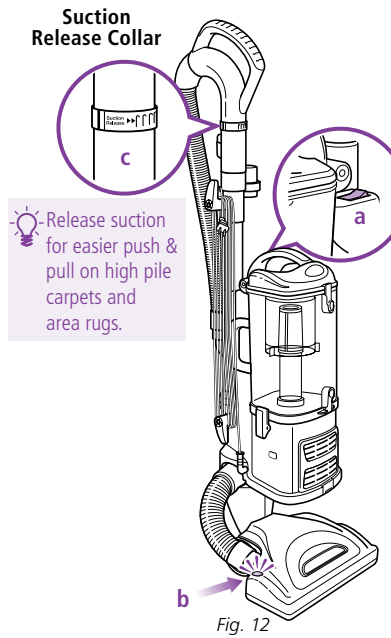

Fig. 12
- 3 Press the On/Off switch (a) to the "1" position to vacuum bare floors (straight suction only) or to the "||" position to engage the motorized floor brush (for vacuuming carpets and rugs). (Fig. 12)
⚠ **IMPORTANT:** The motorized brush indicator light (b) will illuminate green when motorized floor brush is on, or red if there is a blockage or jam. (Fig. 12) This feature is designed to protect your Lifetime Belt that powers your motorized floor brush. See Checking for Blockages on page 15.